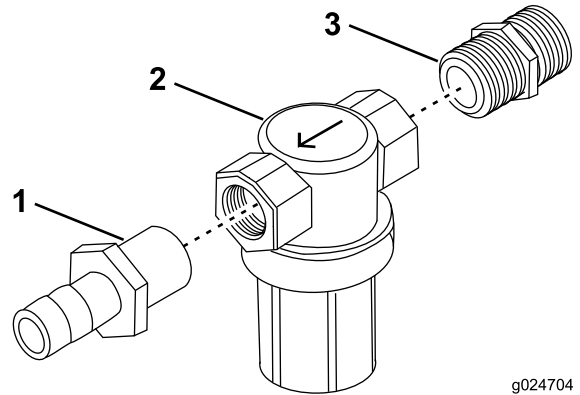

Figure 11
5. Assemble the pressure filter assembly (Figure 11).